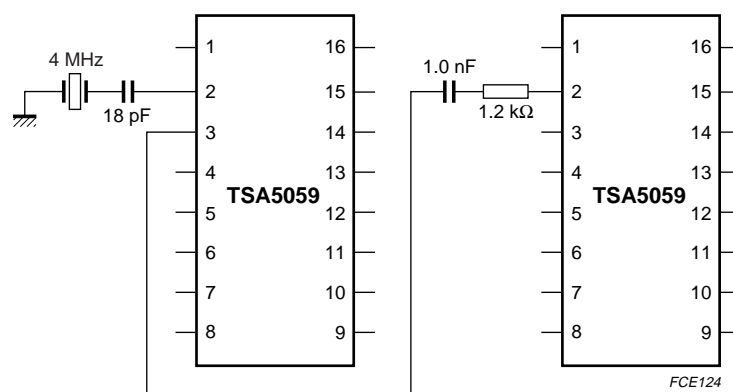

Fig.5 Application for using one crystal with two TSA5059s.
- To drive pin XTAL from the pin XT/COMP of another TSA5059, couple the signal through a capacitor of 1 nF (to remove the DC level), in series with an 1.2 kΩ resistor, see Fig.5.
It is also possible to feed pin XTAL with an external signal between 2 and 20 MHz, coming from an external oscillator or from the pin XT/COMP of another TSA5059, when more than one synthesizer is present in the same application. Then the application given in Fig.5 should be used.